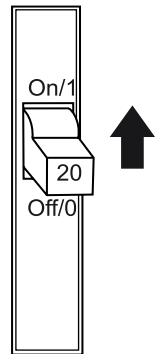

Figure 74. GFCI Circuit Breaker
2. Place a GFCI circuit breaker (Figure 74) in the **ON** position.